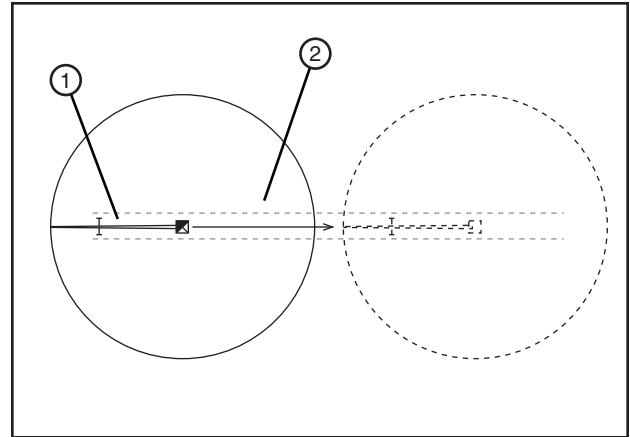

Figure 43-1 1. Machine
1. Position the machine in the tow lane. When positioning the center pivot, always use the “STOP” button on the control panel to stop the center pivot. NEVER stop the center pivot with the control panel or service disconnect switches. See figure 43-1.